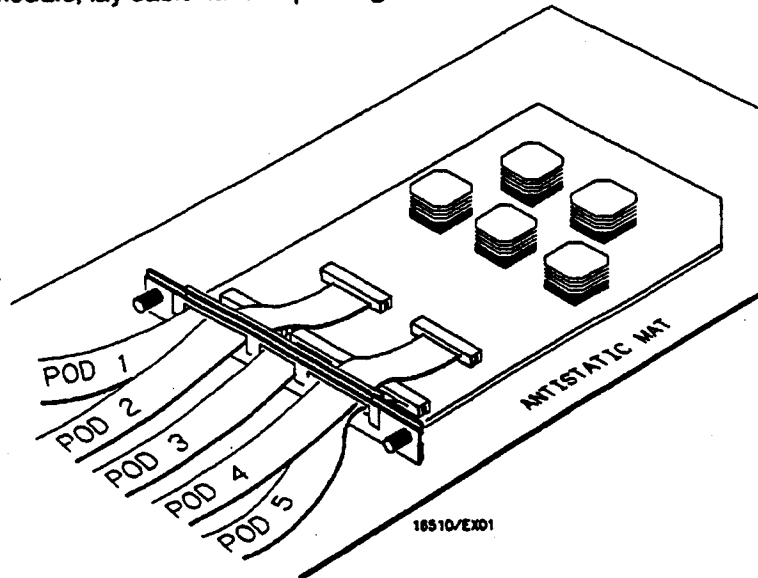

Figure 6-12. Cable Position
- g. To reinstall module, lay cable flat and pointing out to the rear of card. See figure 6-12.